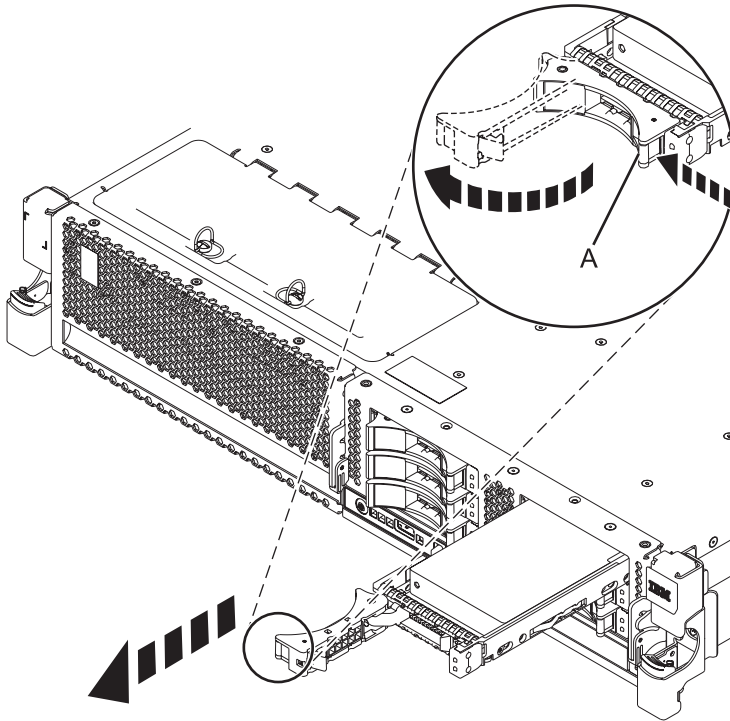

Figure 3. Removing the disk drive from the backplane
- 1) Unlock the disk drive handle (A) and pull it toward you to unseat the disk drive.
- 2) Place one hand under the disk drive and carefully pull the drive out of the system as shown in Figure 3.